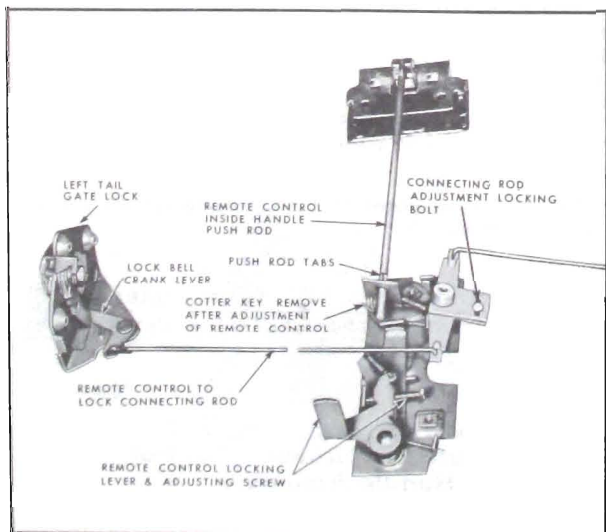

Figure 4-28—Tail Gate Lock Remote Control
To attach lock connecting rod to remote control lever, first loosen connecting rod adjustment locking bolt at remote control (see Figure 4-28); then, install rod to lever and tighten locking bolt.
NOTE: To engage end of handle push rod into hole in remote control lever, it may be necessary to raise window in tail gate to gain access to lever. Adjust remote control upward until tabs on handle push rod (see Figure 4-28) just contact remote control lever.
2. Disengage clips securing lock connecting rods to remote control (Figure 4-28) and detach connecting rods from remote control.
2. Adjust remote control assembly up or down until tabs on push rod (see Figure 4-28) just contact remote control attaching screws.
3. To attach lock connecting rods to remote control lever, first loosen connecting rod adjustment locking bolt (see Figure 4-28); then, install rods to levers and tighten locking bolt.
IMPORTANT: If installing a new remote control assembly, remove cotter key (see Figure 4-28), after adjustment, to free locking lever.
6. Lower window to just below the tail gate window side reveal moldings then adjust remote control locking lever adjusting screw (Figure 4-28) so that lever is just contacting window lower sash channel frame. Check operation of remote control inside handle - handle should remain locked until window upper sash channel frame is below tail gate side reveal moldings.